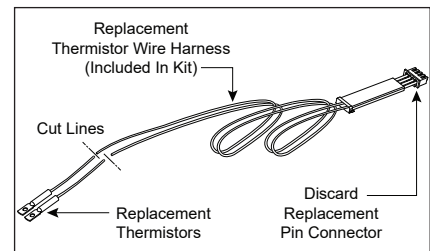

Figure 91 - Cut Replacement Thermistor Wires
- 7 The replacement Thermistor Wire Harness included in the kit will also have to be cut as shown in Figure 91. Cut wires approximately six (6) to eight (8) inches from the base of the thermistors. Set aside thermistor with red wire lead to later replace the lower thermistor.